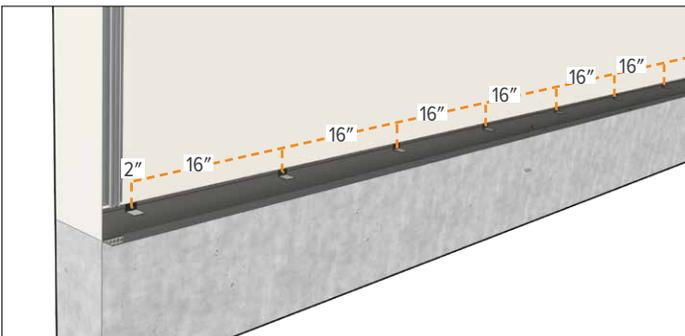

Figure 16.3
3. Secure the Perforated Starter J by placing fasteners through the Plank Backers into the Starter J fastener line at 16" o.c. and no further than 2" from the ends. (Figure 16.3)